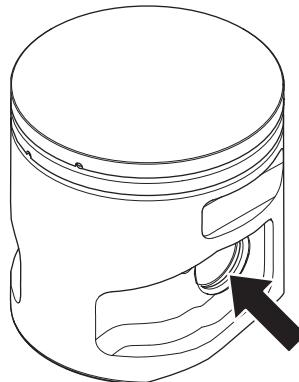

Fig. 2
7. Remove one of the piston circlips, press out the gudgeon pin and remove the piston. See fig. 2.